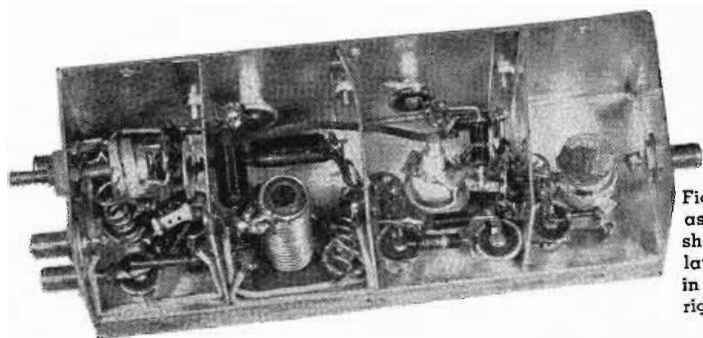

Fig. 4: Underside of assembled chassis showing component layout. Tuners are in two r-f stages at right and local oscillator at left.
The rotator frame is constructed of 3 x 1½ x ¼ in. channel iron, cut at shown and welded at a local machine shop. The strap iron anchor support (bridging the top of the parabola) helps strengthen the frame assembly and provides a means of securing the top of the rotator frame. As can be seen in the mechanical drawing (Fig. 4), a bushing and anchor flange at the top center of the support allow the entire rotator assembly to rotate freely.
The bottom of the channel iron frame is welded to a ¾" steel plate, which supports the horizontal driving motor, the selsyn gear box assembly, and the main drive bearings. The cable terminal fittings and relays also are mounted on this plate. The two base supports (items 11 and 15 in Fig. 4) are 1" x ¼" strap iron, welded to the channel frame to provide extra strength. The rotator base is an ordinary pipe flange with inside diameter to fit the main drive shaft. It can be of any size, shape, or material so long as it is rugged enough to bear the combined weight of the rotator assembly, microwave receiver and parabola. The portion of the channel iron frame extending from the bottom right half of the rotator frame to the horizontal motor is completely enclosed to form a weatherproof housing for the AC
Fig. 3: (left) Circuit of control and selsyn indicating circuits, section below broken line is control panel wiring. Fig. 4: (right) Mechanical construction details of the rotator and antenna mounting cradle. B and C referred to in text are selsyn transmitters
The chassis was laid out with 1/32-inch tolerances between most component parts in order to minimize lead length and stray capacitance. The stray capacitance was also kept to a minimum by mounting the coils one-half inch off the chassis. This necessitated submounting the tube sockets with respect to the chassis in order to maintain minimum lead length. The shields were centered over the tube sockets so that feedback could be kept to a minimum. The chassis layout may be seen in Fig. 4.